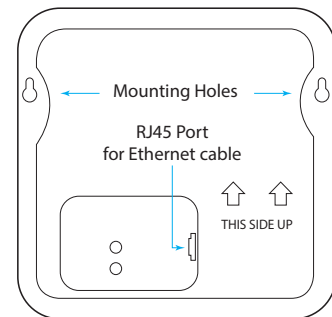
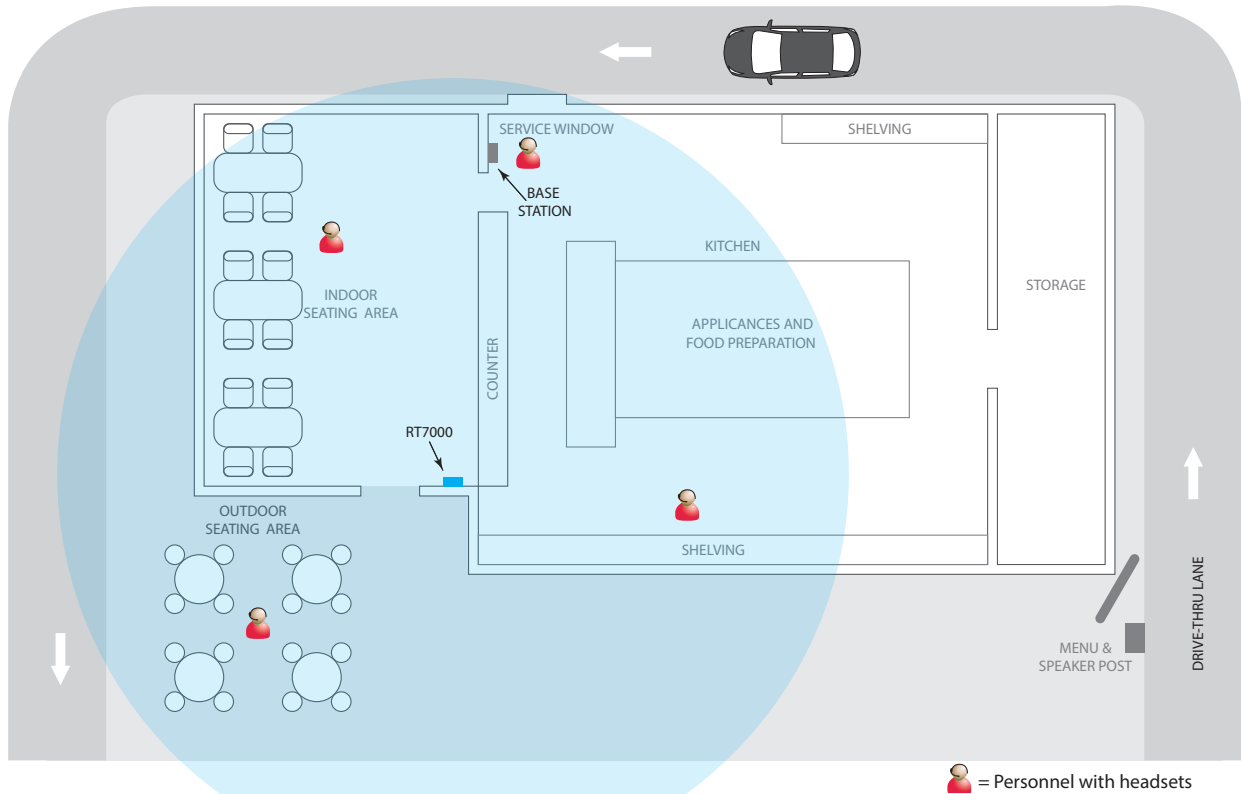

Fig. 2.4
Fig. 2.10
- Finding a good location for the remote transceiver is critical (see Fig. 2.10, and 2.11). Also read about the “Remote Transceiver (RT7000)” on page 14 under Component Notes and review the Critical Steps in these following instructions.
5. **Critical Step:** Loosely mount and connect the RT7000 (Fig. 2.4 & 2.5) in a central location for optimal coverage (until range tested in steps 9 & 10 with the Installation Wizard). For example, notice Fig. 2.10 and 2.11. They show two different store layouts with specific targeted areas where the headsets are primarily used. In these examples, the location selected for the RT7000 (represented by the small blue rectangle) offered the best coverage indicated by the blue circled areas. Each store required the RT7000 to be mounted in a different but central location to provide the best all-around coverage unique to the store's need. Store layout and obstructions also affected placement and range. (see "Component Notes" on page 14 for more details on the RT7000 placement).